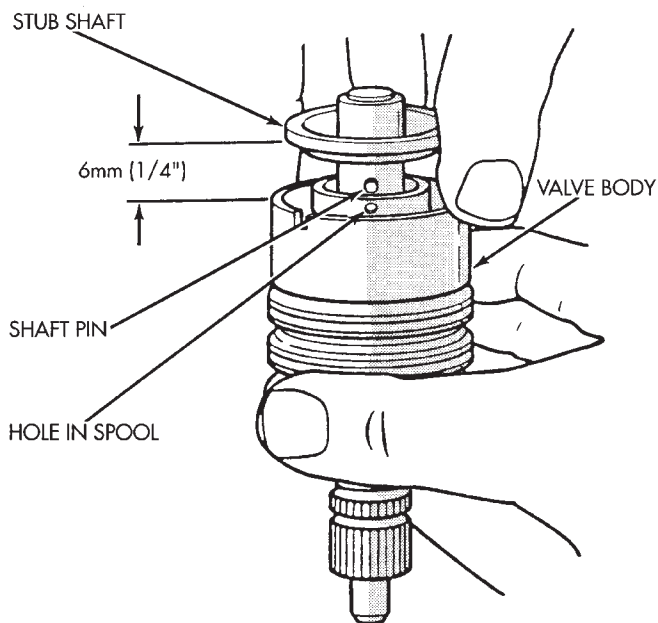

Fig. 12 Stub Shaft
(5) Remove stub shaft from valve assembly by lightly tapping shaft on a block of wood to loosen shaft. Then disengage stub shaft pin from hole in spool valve and separate the valve assembly from stub shaft (Fig. 12).